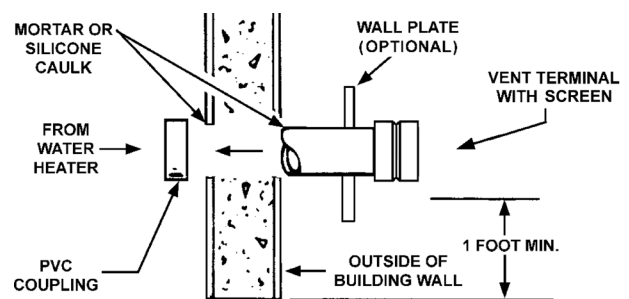
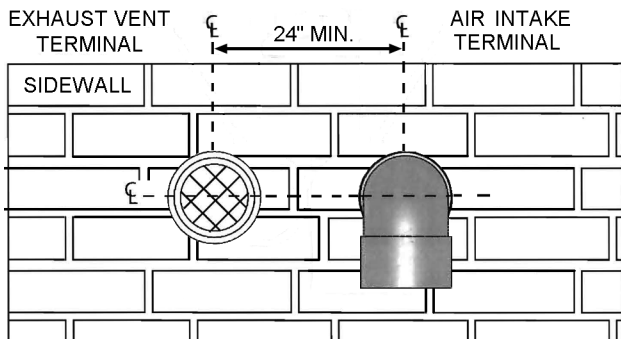
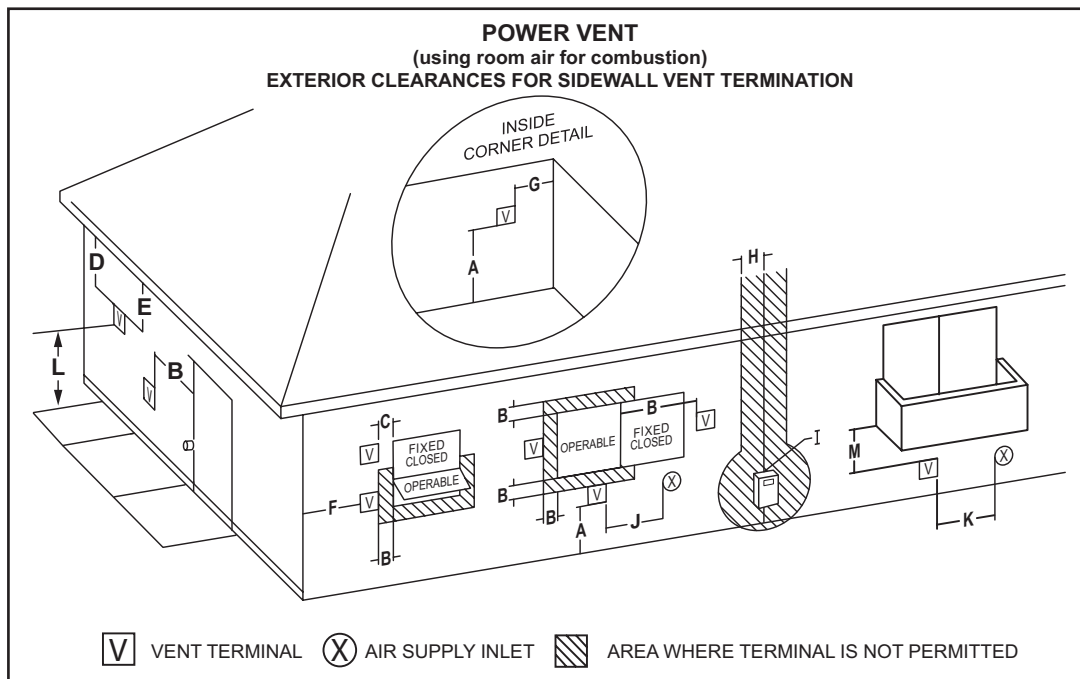
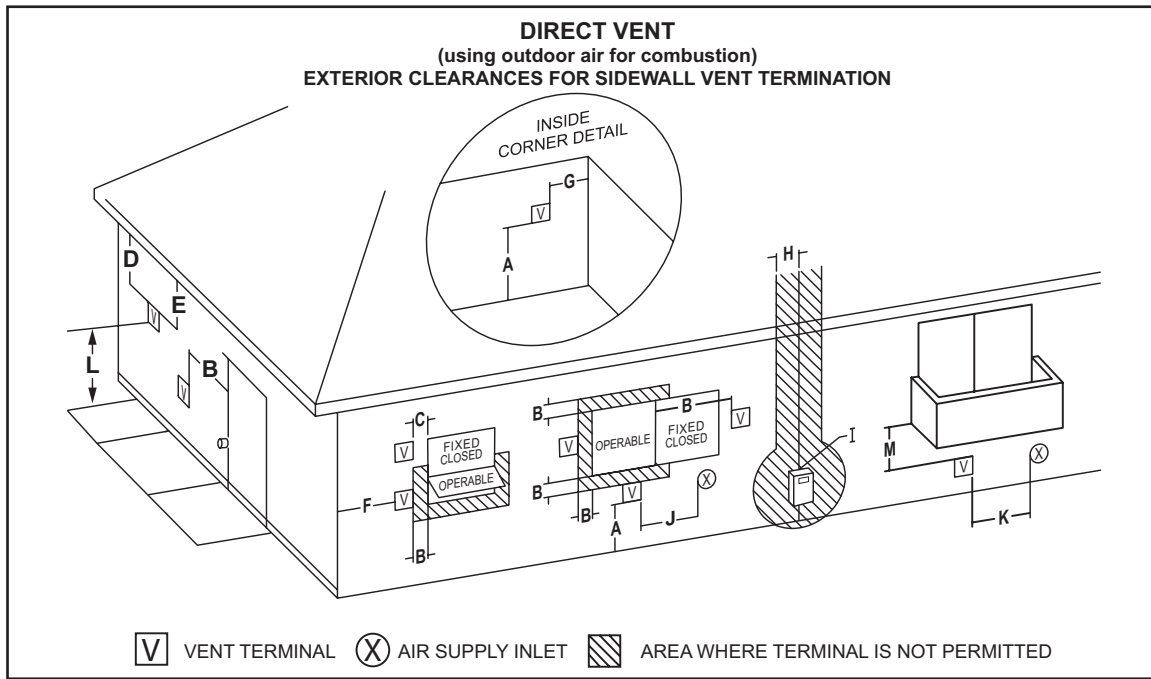

Figure 13: VENT TERMINATION
Figure: 14A
Figure: 16
Figure: 17
2. Through-the-Wall Termination - horizontal vent termination directly through an outside wall, see "Figure 13: VENT TERMINATION" on Page 27.
Direct venting into dead spaces such as alleys, atriums, and inside corners can cause recirculation of flue gases. Recirculation of flue gases will cause sooting, and icing of the combustion air intake during severe cold weather. To prevent the recirculation of flue gases, maintain as much distance as possible between the combustion air intake and the exhaust vent terminal refer to "Figure: 16" and "Figure: 17" on Page 29 & Page 30 respectively.
The first step is to determine where the vent pipe will terminate. See Figures 13, “Figure: 14A”, and “Figure: 15”. The vent may terminate through a sidewall as shown in Figure 13 and “Figure: 15” or through the roof as shown in “Figure: 16” and “Figure: 17”.
The vent system must terminate so that proper clearances are maintained as cited in local codes or the current edition of the National Fuel Gas Code, (ANSI Z223.1, 12.9.1 through 12.9.4) or the Natural Gas and Propane Installation Code (CAN/CSA-B149.1). See “Figure: 16” and “Figure: 17”.
Instructions on proper installation through a sidewall are provided in Figures 13, “Figure: 14A”, and “Figure: 15”.
Cut a length of pipe about 3.5 inches (8.9 cm) longer than the wall thickness at the opening. Glue the vent terminal to this section of pipe. Slide the wall plate over the pipe to stop against the vent terminal. Place a bead of caulking (not supplied) around the gap between the pipe and cover plate. Apply enough to fill some of the gap between the pipe and wall. Place some of the caulking on the back of the plate to hold it against the wall after installation. If the vent pipe is installed up to the wall, with a coupling on the end against the wall opening, the pipe with the vent terminal can be prepared for gluing before inserting through the wall. Slide the pipe through the wall and insert into the coupling on the other side of the wall, making sure that the vent terminal ends up pointed in the correct position, see Figure 13.
6. If the air intake pipe is installed up to the wall, with a coupling on the end against the wall opening, the pipe with the air intake terminal can be prepared for gluing before inserting through the wall. Slide the pipe through the wall and insert into coupling on the other side of the wall, making sure that the air intake terminal ends up pointed in the correct position (Figure 14A and Figure 15).